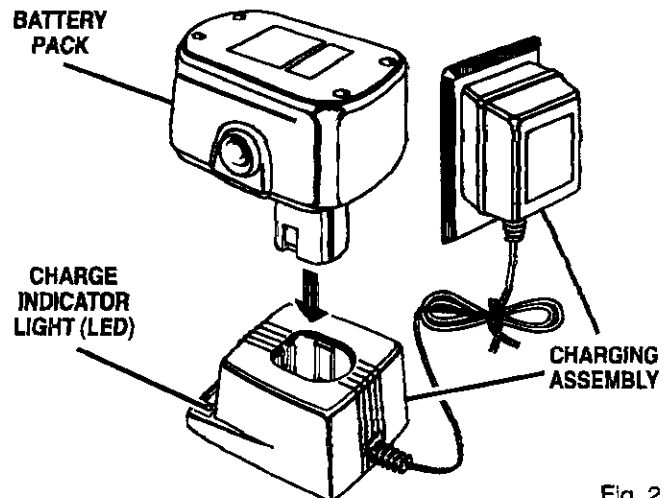

Fig. 2
- Place battery pack in charging assembly. Align raised rib on battery pack with groove in charging assembly. *See Figure 2.*